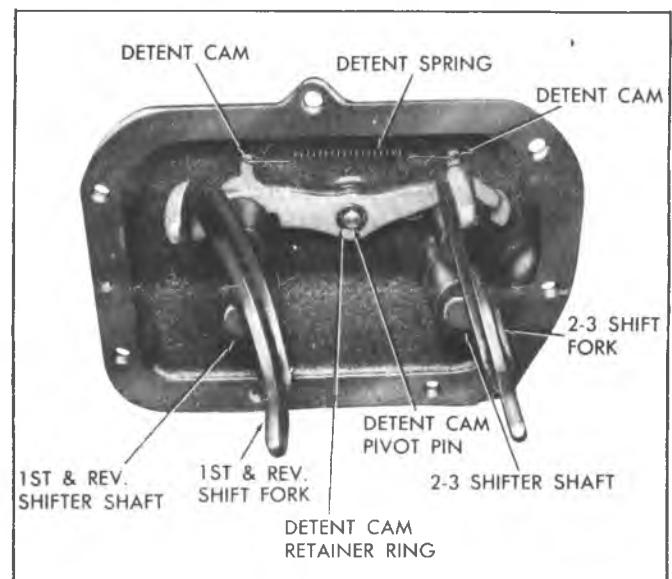

Fig. 7B-17-Transmission Side Cover Assembly
4. Slide boot and retainer up on shift lever and remove the transmission shift lever using Tool J-8109 as shown in Figure 7B-14.